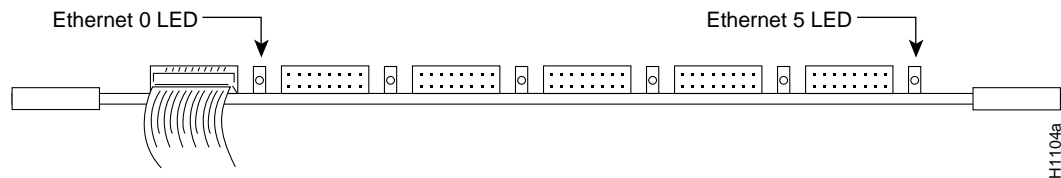

Figure 5 CSC-MEC Card LED Indicators—Front-Edge View
Also observe the LEDs on the MEC card you just reinstalled. An LED is located next to each port, as shown in Figure 5. After the system boots, the LED for each connected port should be on.
Step 4 Check the LEDs on the MEC card. The LED indicator for each connected port should be on. (See Figure 5.) If they do not go on, check the following: